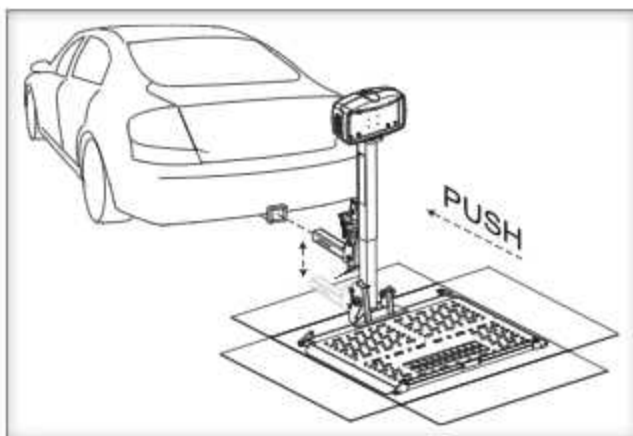

Figure 16-4
6. Align the hitch adapter, using the power of the lift. The lift will slide on the cardboard box. [Figure 16-4]